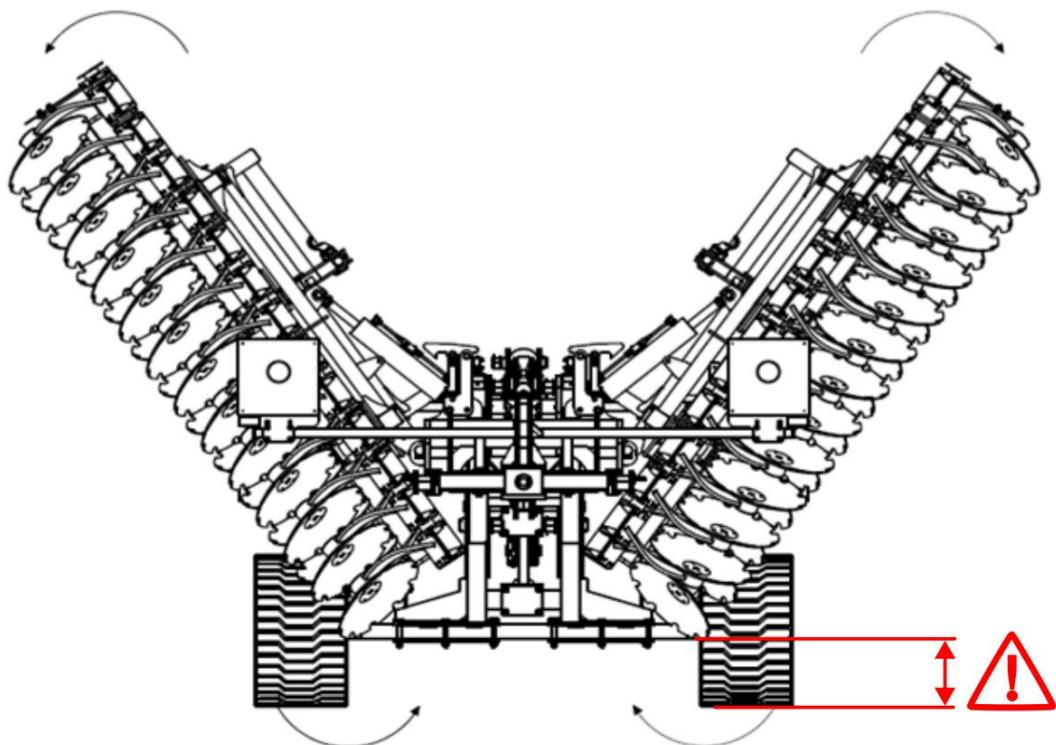

Figure 12 Machine opening sequence: opening the machine with special attention to the height of the arm ends from the ground.
4) Begin opening the machine's wing arms (check the correct height preventing them from snagging on the ground !) (fig.12)
5) Don't stop and continue opening sequence of the machine wings until their final position. (fig. 12)